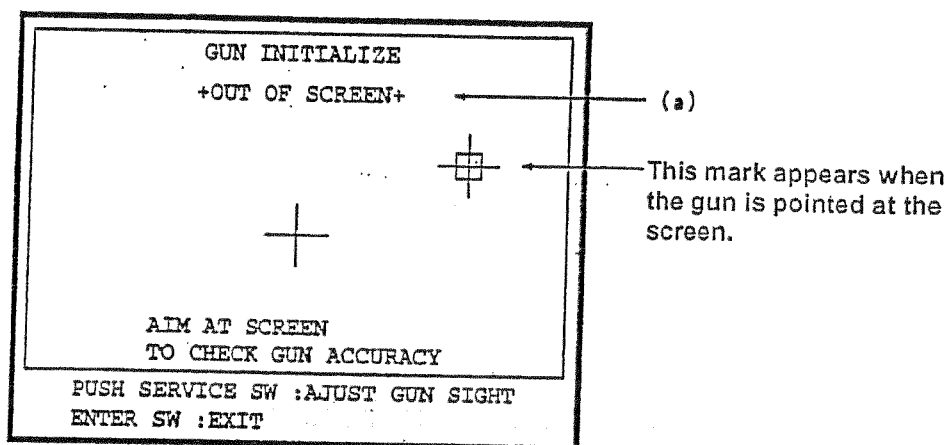

Figure 1 GUN INITIALIZATION screen 1
The GUN INITIALIZATION screen (Figure 1) appears.
2. The screen shown in Figure 1 is used to adjust the gun sight. The gun crosshair is displayed at the point on the screen at which the gun is pointed. Check that the gun crosshair appears exactly at the point at which it is aimed. (Make sure that aiming is accurate over the entire screen surface from edge to edge.)
4. When the Service switch (or pedal) is pressed while the screen in Figure 1 is shown, the display changes to the screen shown in Figure 2 for the gun sight adjustment. The gun sight adjustment is performed by shooting at one location on the screen: the center.
- 5 On the screen shown in Figure 2, aim and shoot at the center of the crosshair displayed in the middle of the screen. After the gun is shot, the display changes to the screen shown in Figure 1.
- On the screen shown in Figure 1, make sure that aiming is accurate from edge to edge of the screen. If the gun sight is not accurate, press the Service switch (or pedal) to display the screen shown in Figure 2, and repeat the adjustment procedure.